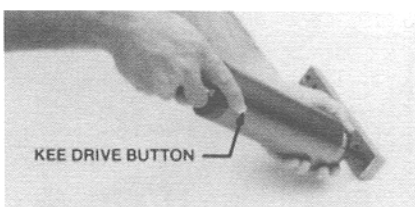

Figure 3
6. Drive KEES to  $\frac{.030}{.010}$  depth by pushing KEE Drive Button (figure 3).